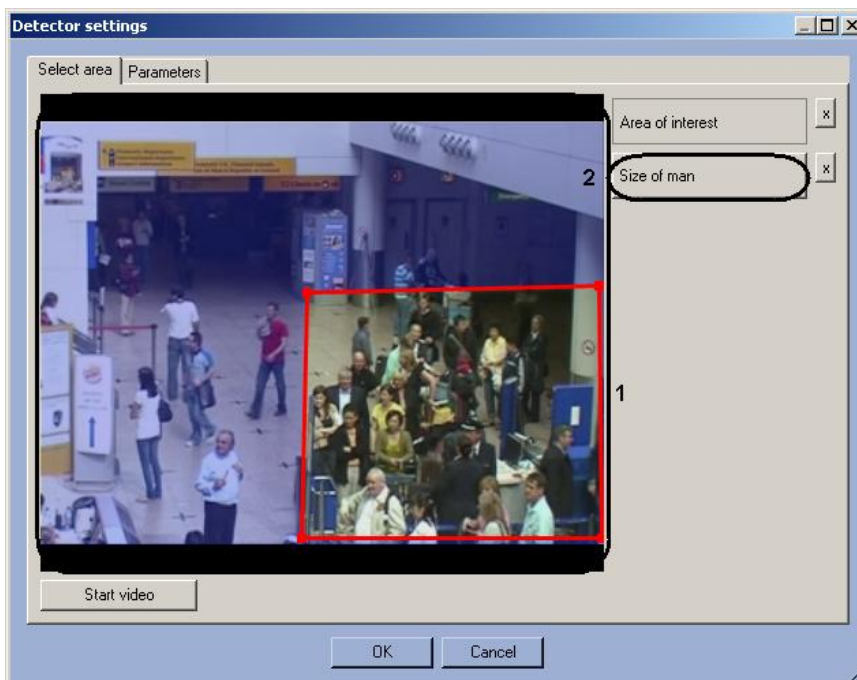

Fig. 6.1—4 Setting area of interest
- 3.4 Click **Person size** (see Fig. 6.1—4, 2).